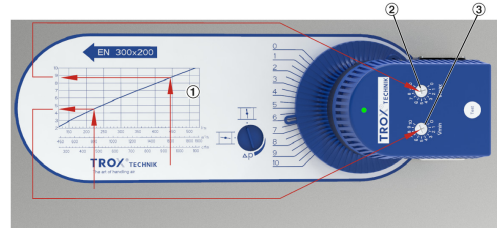

Fig. 11: Setting the volume flow rate
1. ▶ Using the volume flow rate scale (Fig. 11/1), determine the setting value (1-10) for the desired volume flow rate (cfm).
2. ▶ Set the desired value at the Vmin potentiometer (Fig. 11/3).
3. ▶ Set the desired value at the Vmax potentiometer (Fig. 11/2).
Settings according to scale Fig. 11: